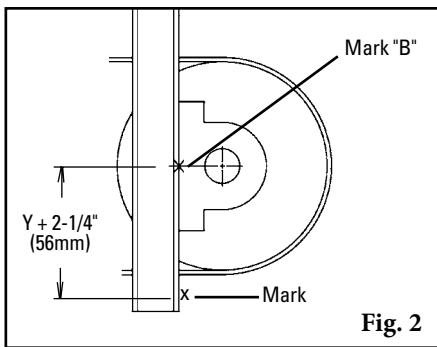

Fig. 2
- 2c. Measure down the given Y dimension plus 2-1/4" (56mm) and mark (Fig. 2).** This mark indicates the top location of support material to be added for installing the cleaner mounting brackets.